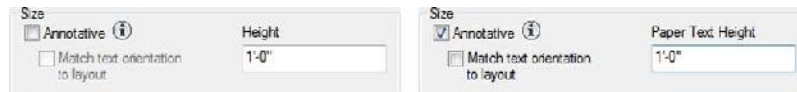

FIGURE 8.15: The Size group inside the Text Style dialog box with the Annotative option unchecked (left) and checked (right)
6. Under the Size group within the Text Style dialog box, click the Annotative check box, as shown in Figure 8.15, but leave the Match Text Orientation To Layout box unchecked.